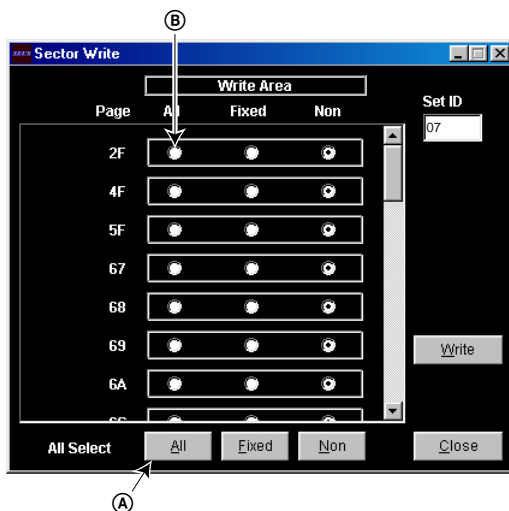

Fig. 6-1-66
- 4) Click **[All]** of the ALL SELECT buttons to select all pages. (Fig. 6-1-66 (A))
- 4) Click "All" of the option buttons of target page. (Fig. 6-1-66 (B))